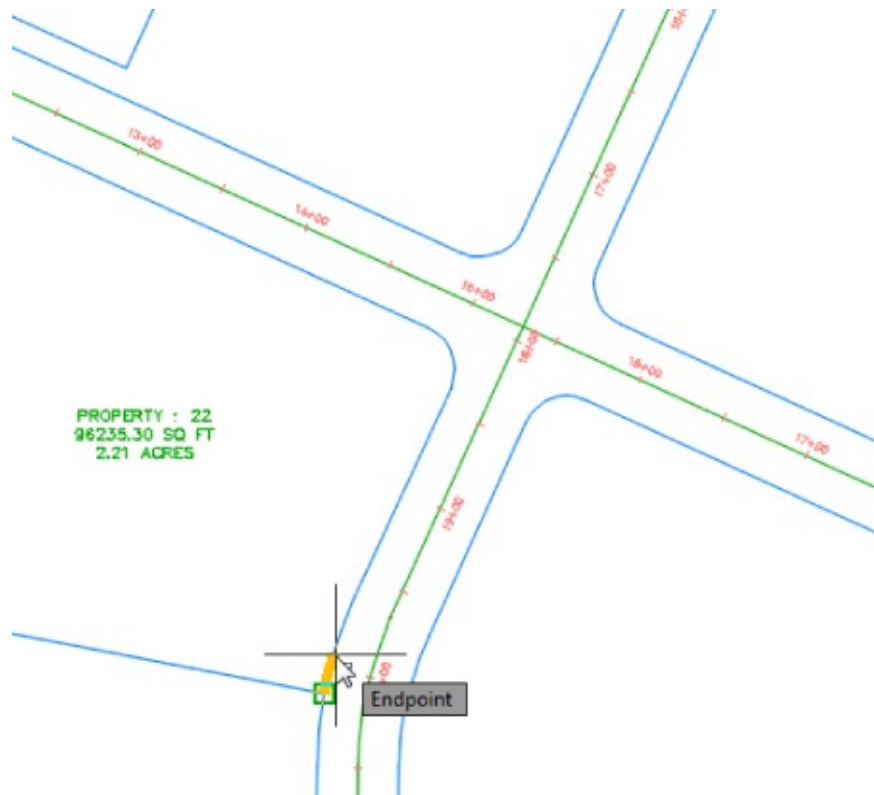

Figure 5.31 Pick the point on the curve on the parcel's southeast corner, as highlighted by the Osnap marker along the ROW parcel segment.
10. At the Select start point on frontage: prompt, use your Endpoint Osnap to pick the point on the curve along the ROW parcel segment for Property : 22 on its southeast corner (see Figure 5.31). The point will show with the Osnap marker over it.